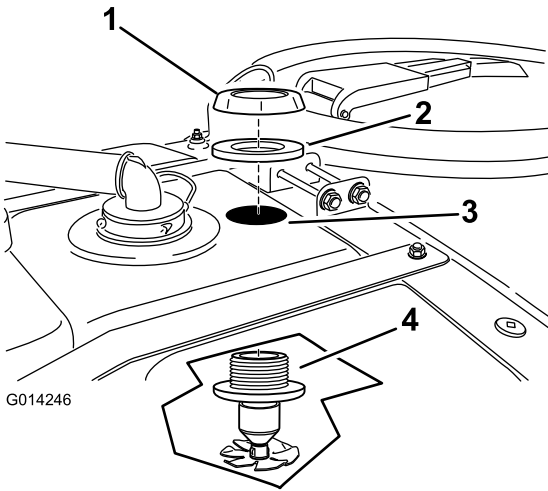

Figure 15
2. Install a nozzle assembly up through the drilled hole (Figure 15).
3. Install the bulkhead fitting over the exposed threads of the rinse-nozzle assembly (Figure 15).